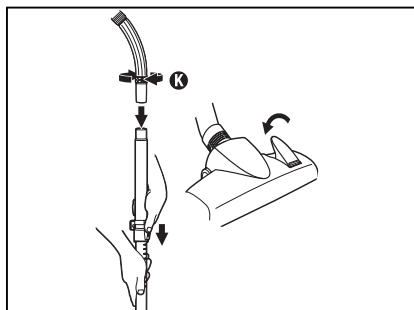

Fig. 6
Step 3: For models with telescopic wands, extend wands by pushing lock button down and pulling on lower wand until reaching desired height (Fig. 6).
Step 4: Adjust to maximum suction by closing the slip ring (K) on the hose handle (Fig. 6).
Step 2: Adjust to minimum suction by opening the slip ring (K) on the hose handle (Fig. 6).